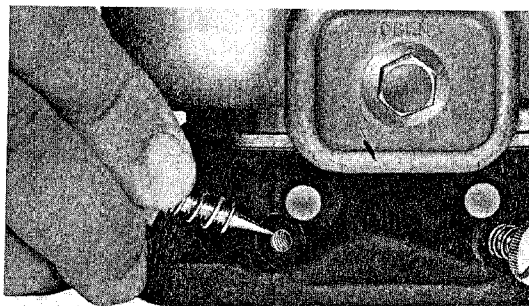

Fig. 24
1. Unscrew mixture regulating screws and check whether cone is intact, i.e. make sure that no dents nor pressure points can be found. Cone should neither be bent (see fig. 24). In case of doubt, use new mixture regulating screws.